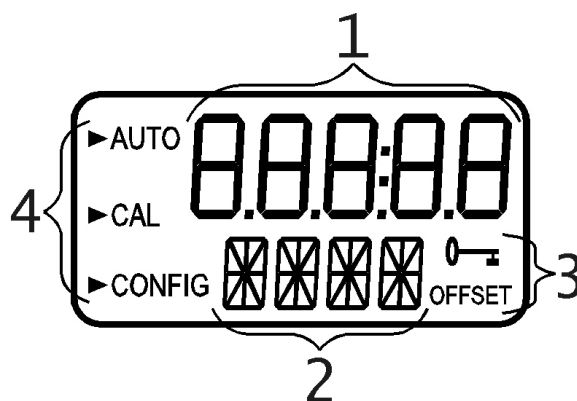

Fig. 1: Display used in the instrument.
Fig. 1 illustrates all the items that can appear on the display. The upper row of the display (1) is used for reporting the chlorine levels and to provide user guidance in the customer setting routine. The lower row of the display (2) is used to communicate error messages (message queue) and provide user guidance. The display has two icons (3) that are used to indicate the use of access code and offset mode. In addition, mode arrows (4) are used to indicate the current instrument operating mode; AUTO (normal operation), CAL (calibration) and CONFIG (configuration).